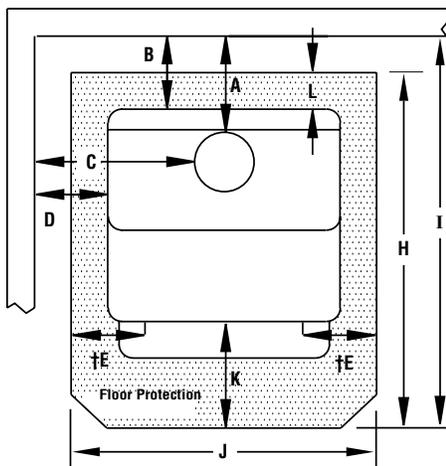

Figure 2
**INSTALLATION CLEARANCES - REFER TO FIGURES 2, 3 AND 4**